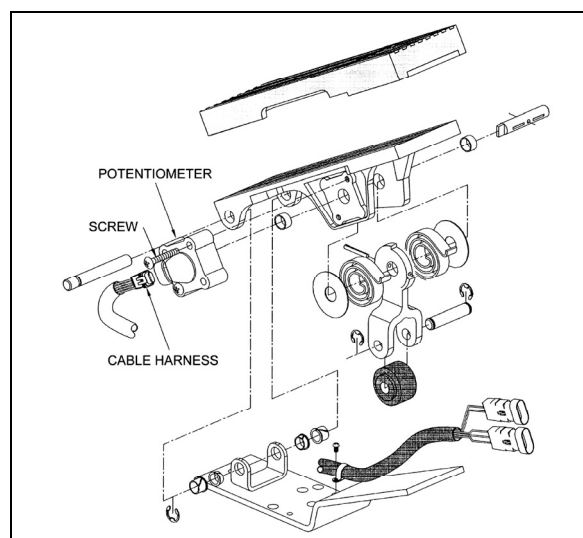

FIGURE 11: ELECTRONIC FOOT PEDAL ASSEMBLY 03035
3. Discard potentiometer (Fig. 11).
Reinstall screws (Fig. 11) and tighten just enough to secure potentiometer lightly. Tighten screws to 10 - 20 Lbf-in (1.13 - 2.26 Nm).